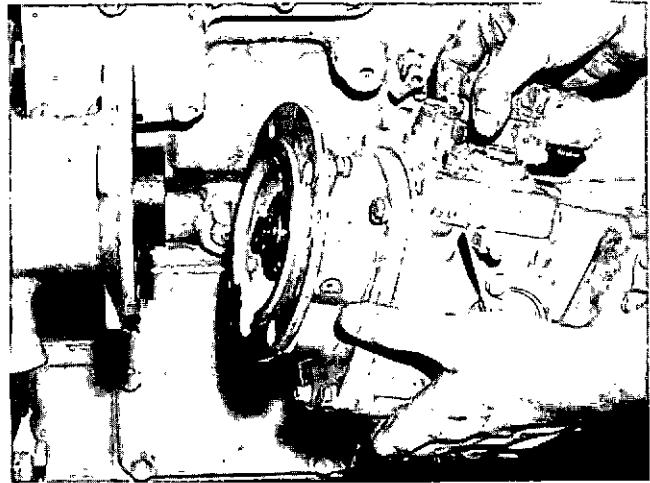

Fig. 0-22, V40055. Removing fuel pump
4. Lift off fuel pump, Fig. 0-22, and drive coupling; discard gasket and drive buffer, if used.